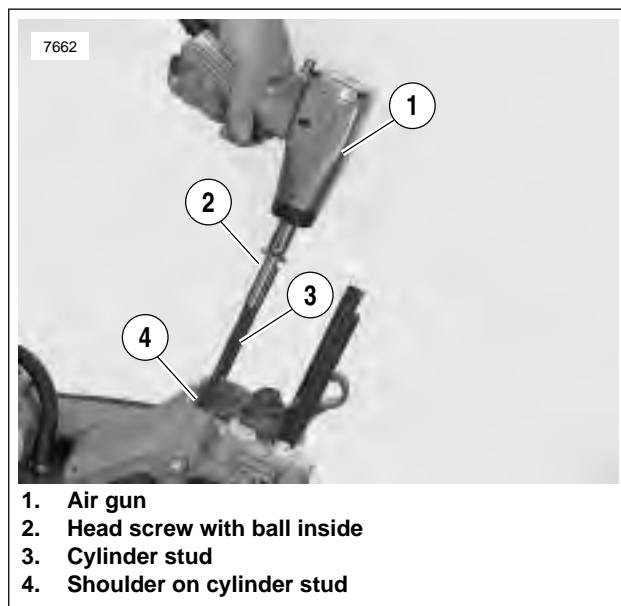

Figure 3-141. Cylinder Studs
15. See Figure 3-141. Install cylinder studs.